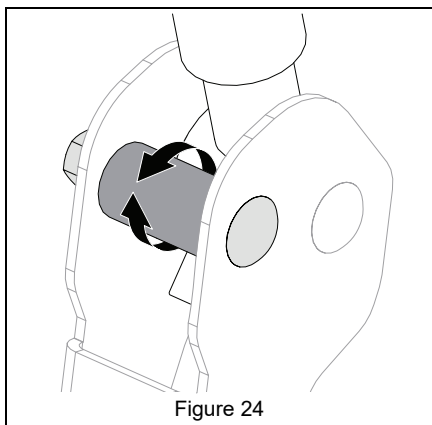

Figure 24
- Turn eccentric spacer so levers are at the same height and have a 1.3 cm – 2.5 cm (1/2" – 1") gap between lever ends. See Figure 24.